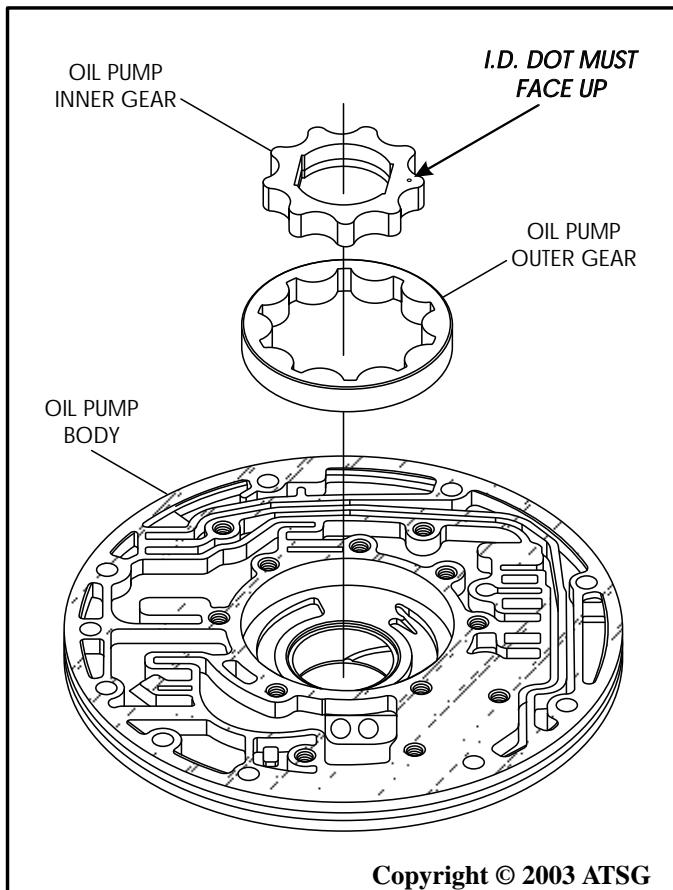

Figure 162
7. Turn the oil pump body over and install inner and outer pump gears, as shown in Figure 162, and lubricate with transmission fluid.